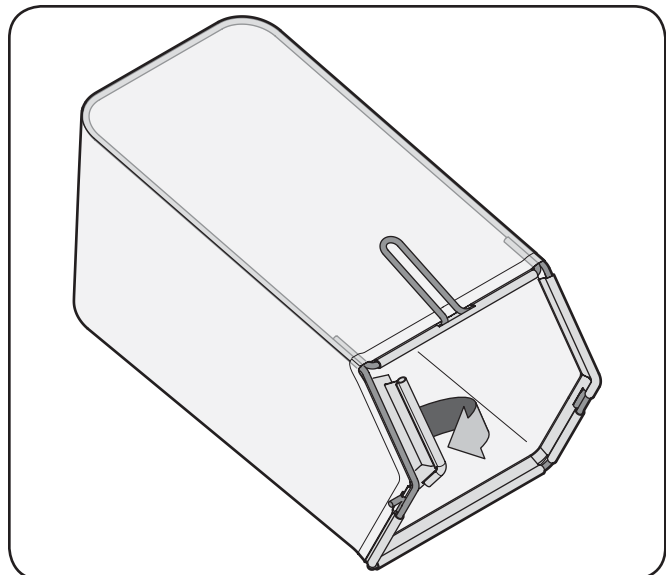

Figure 3-6
- b. Slip plastic channel of grass bag over hooks on the frame. See Fig. 3-6.